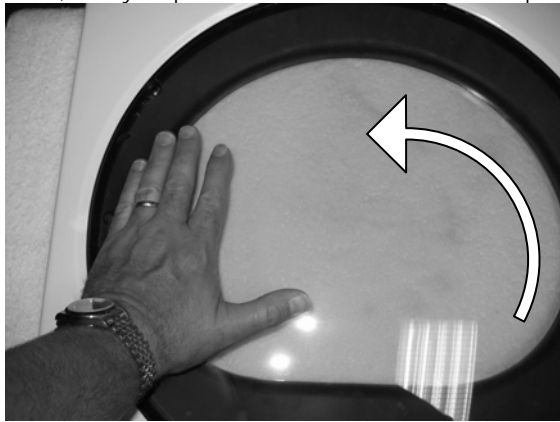

Figure 9
9. Flip door, lens side up, apply moderate pressure downward and rotate 180 degrees so holes in lens align with holes in transition ring where handle was installed. (Figure 9)